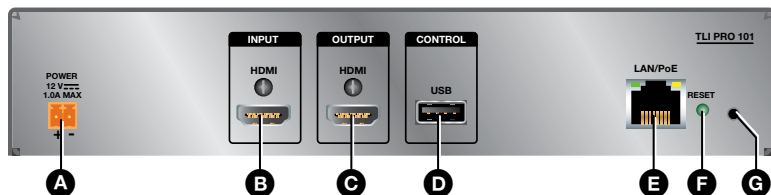

Figure 1. TLI Pro 101 Rear Panel
- **Use factory firmware:** Press and hold the Reset button (Figure 1, **G**) while applying power to the unit. Use this mode to replace firmware in the event of firmware failure.
- **Reset All IP Settings:** Press and hold the Reset button for 6 seconds. After the Reset LED (Figure 1, **F**) flashes twice, release and momentarily press the Reset button. Use this mode to reset all network settings without affecting user-loaded files.